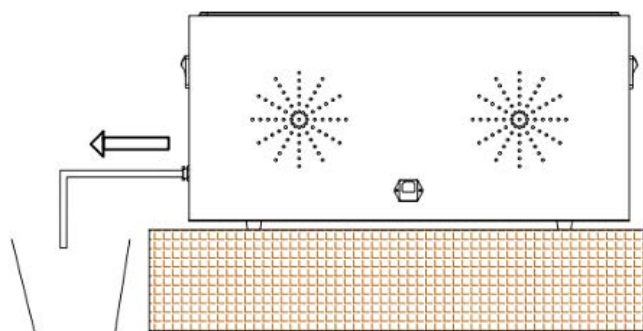

Figure 3. Instruction to discharge the water after using the instrument.
- Insert a suitable drainpipe into the drainage port. Put the end of the pipe into a sink or container to completely discharge the water inside the bath chamber, according to the picture below (**Figure 3**):